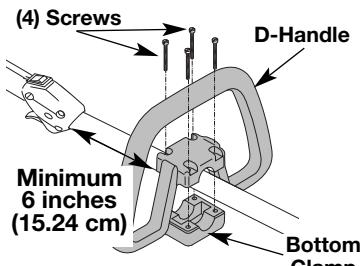

Fig. 1
2. Place the D-handle over the shaft housing and onto the bottom clamp (Fig. 1). Place it a minimum of 15.24 cm (6 in) from the end of the shaft grip.